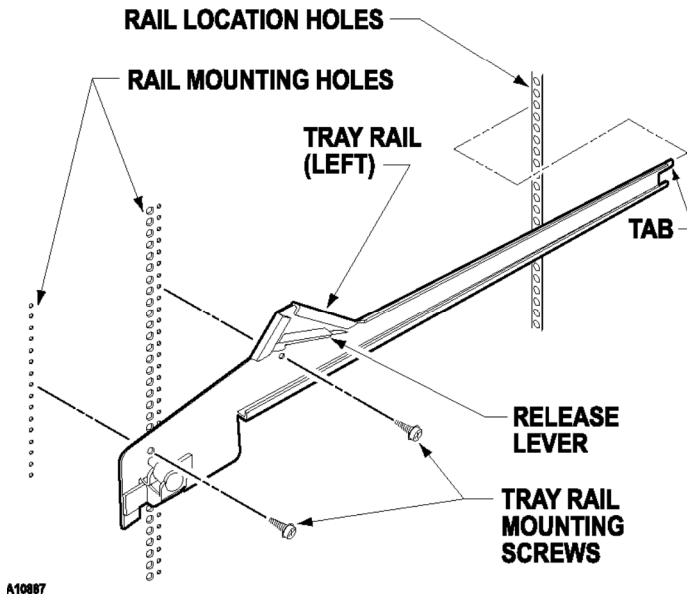

FIGURE 5. TRAY RAILS
- b. Pull each rail forward to disengage its rear tab from the hole in the rear wall. See FIGURE 5.